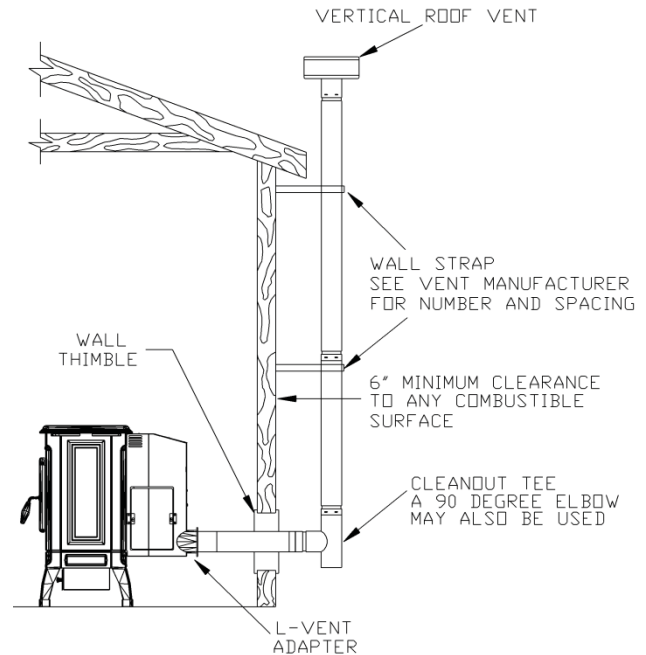

FIGURE 6
A. HORIZONTALLY THROUGH WALL (refer to Figure 6)